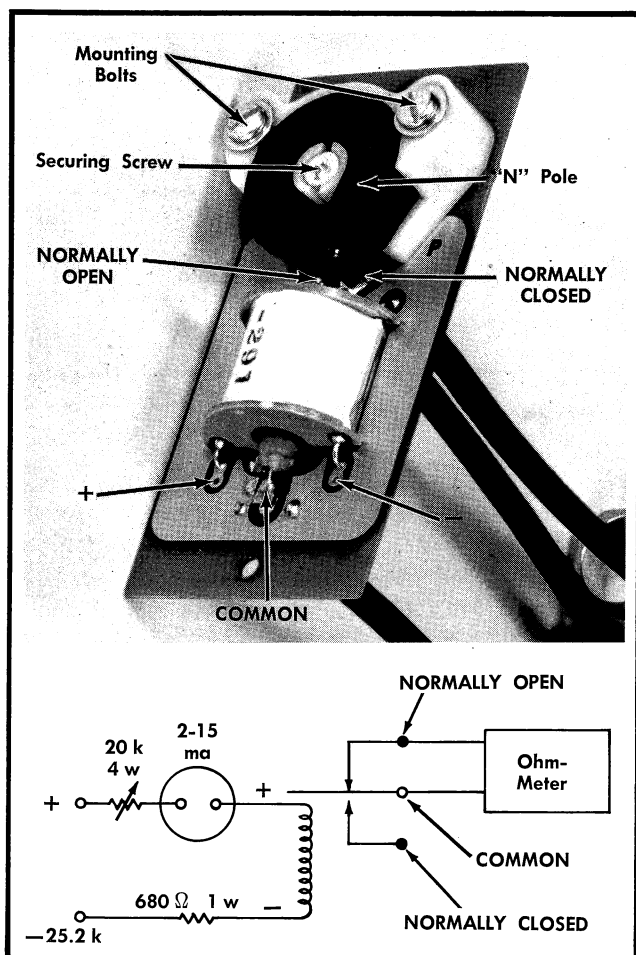

Fig. 4-1. Circuit used when setting bias magnet position.
5. Two clip leads to connect items 3 and 4 to the relay coil (Fig. 4-1).
- Place the "N" side of the magnet in the right side of the plastic mount as shown in Fig. 4-1. Tighten the securing screw to hold the magnet firmly in place.
- Assemble the circuit as shown in Fig. 4-1 with the 20 k rheostat at maximum resistance. The 25 volts can be obtained from the Type 661 Oscilloscope at the -25.2-volt terminals shown in the Type 661 Oscilloscope instruction manual calibration procedure.